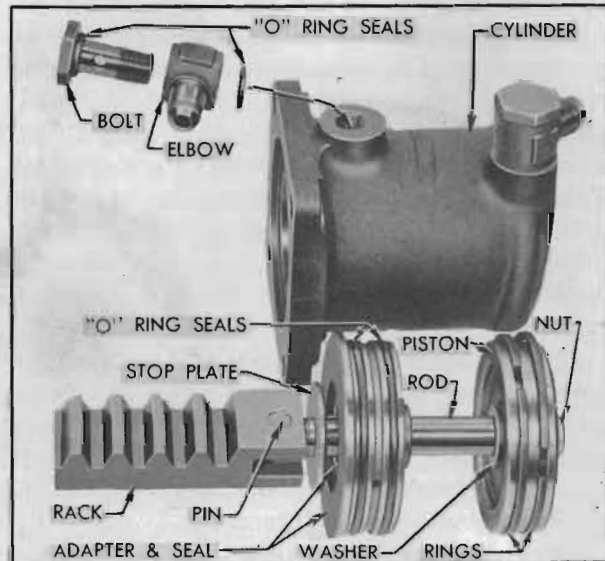

Figure 7-22—Power Cylinder and Rack Parts
7. Push rack up to the cylinder adapter and then pull it sharply away to hammer the piston against the adapter. It may be necessary to repeat this several times to break the grip of rubber seals between adapter and cylinder so that the rack and piston can be removed. See figure 7-22.